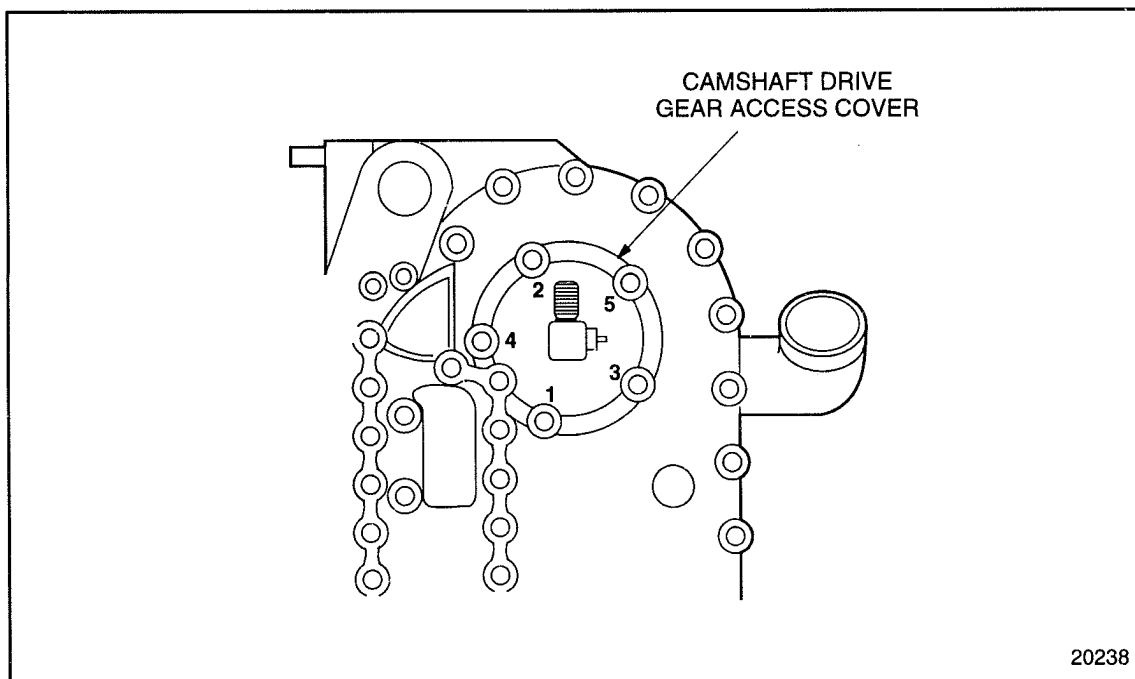

FIGURE 1-293 Camshaft Drive Gear Access Cover
15. Tighten the bolts to the torque values using the tightening sequence. See Figure 1-293.